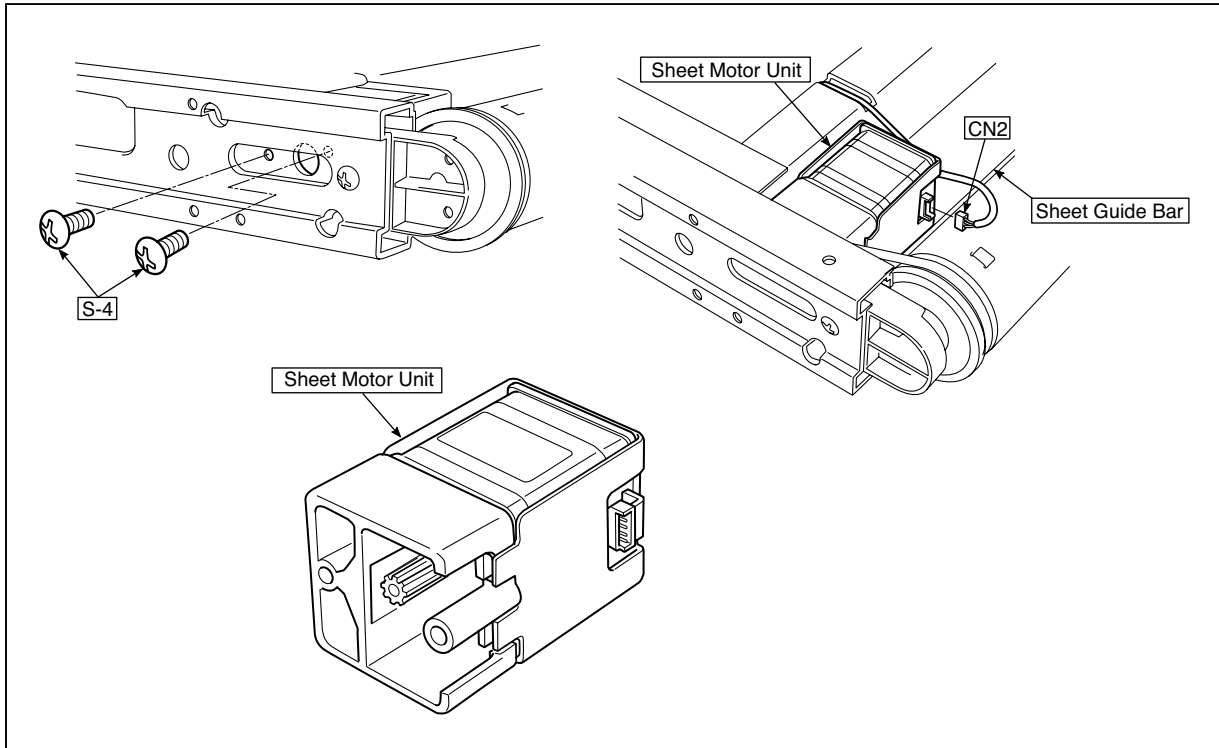

Fig.31
12) Replace the Sheet Motor Unit. (See Fig. 31)
1. Remove the "S-4" screws shown in the figure 31.